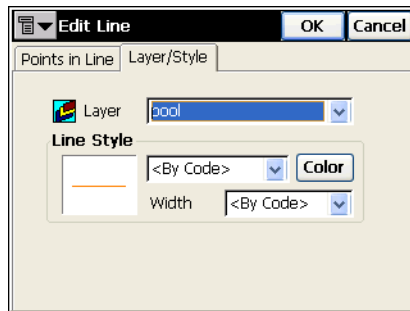

Figure 4-49. Edit Line/Point Style
- In the *Layer/Style* tab of the *Edit Line* screen, set layer and plotting properties to use for display the linework on the map (Figure 4-49) and tap **OK**.